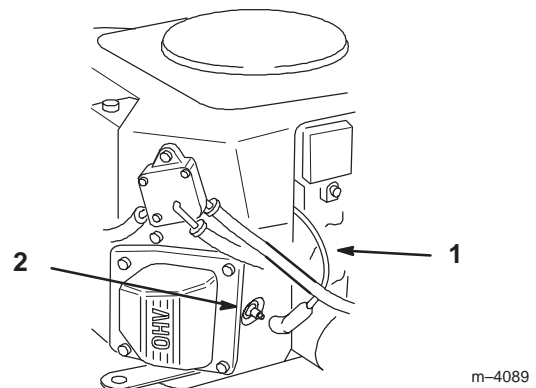

Figure 28
2. Pull the wire(s) off the spark plug(s) (Fig. 28). Now clean around the spark plug(s) to prevent dirt from falling into the engine and potentially causing damage.
3. Push the wire(s) onto the spark plug(s) (Fig. 28).